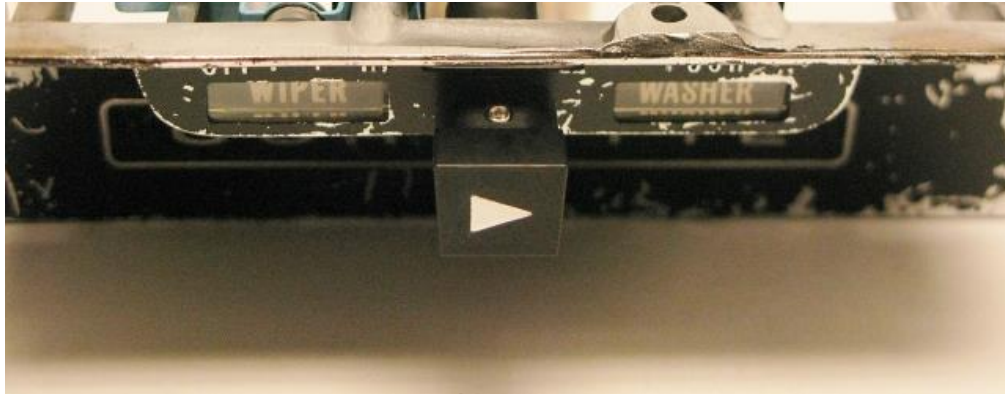

Figure 8 – Install DSE Wiper Knob
16. Slide the DSE wiper knob onto the wiper switch shaft. Align the set screw with the flat on the wiper switch and tighten (Figure 8). **NOTE:** Make sure the set screw locks onto the flat on the wiper switch.